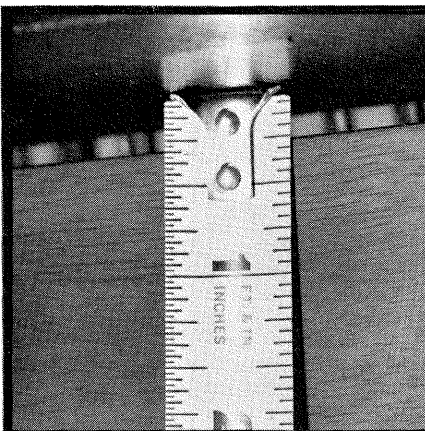

FIGURE 8-2 Measure the gap between the Keybed and Lower Frame.
Measure the gap between the Lower Frame and the underside of the Keybed near each end of the Lower Frame (see FIGURE 8-2) and write the measurement on Line (2) under this Step on the Check List, then subtract the measurement on Line (2) from that on Line (1) and write the difference on Line (3) under this Step. See the NOTE on the next page.